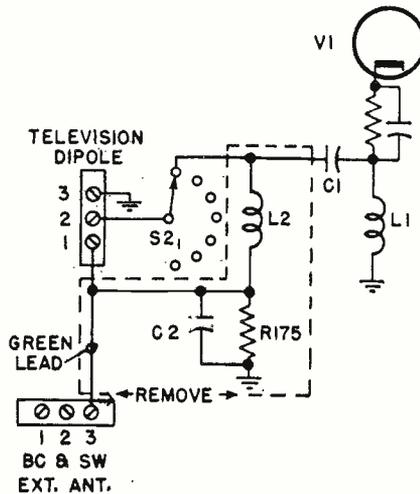

Figure 2
3. Remove green wire and 1.0 meg-ohm resistor  $C175$  (see Fig. 2) from BC and SW external antenna terminal board, and discard parts. The green lead is end of lead removed in step (1).